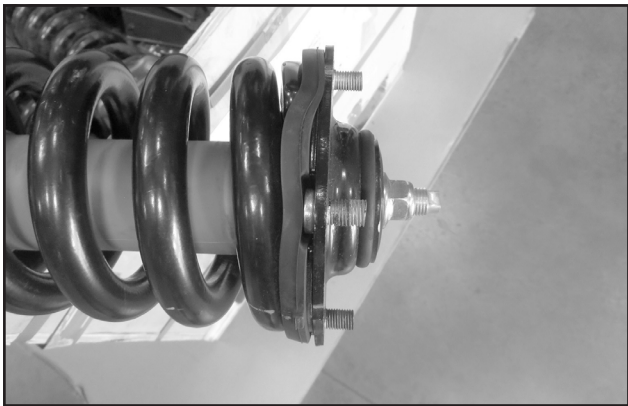

**FIGURE 7 - STEP 7**
7. Disconnect the upper control arm from the knuckle. Save hardware. **(FIGURE 7)**.